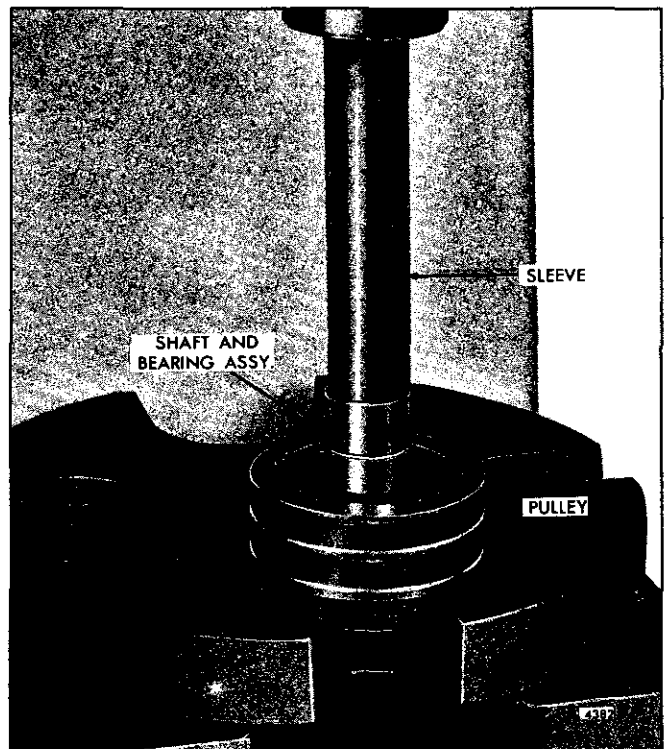

Fig. 3 – Installing Shaft and Bearing Assembly in Idler Pulley
1. Apply a minimum of 1600 lbs pressure only on the outer race of the bearing as shown in Fig. 3 and press the bearing and shaft assembly into the idler pulley until the outer race of the bearing is flush with the inside surface of the pulley.